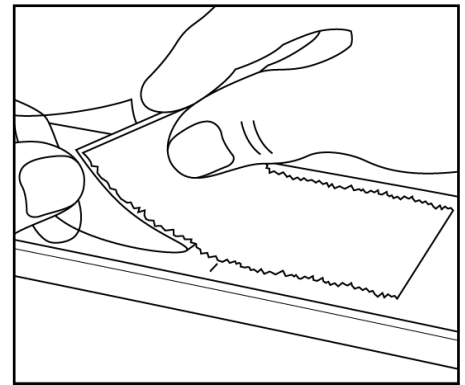

Fig.32
2. Center the black Velcro patch over the mark, peel off the protective backing and press firmly into place (**Fig.32**).